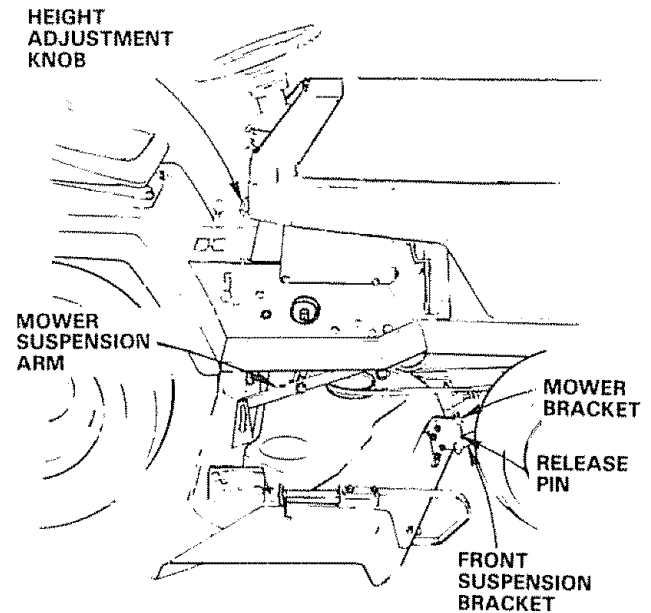

FIGURE 7
- Remove banding from suspension arms (Fig. 7) and gauge wheels. Set gauge wheels aside for later assembly.
- Slide front suspension brackets into mower brackets. Retain with release pins (Fig. 7).
- Turn height adjustment knob counterclockwise (↺) until it stops (Fig. 7).
- Turn height adjustment knob (Fig. 7) clockwise (↻) to remove slack from mower suspension.
- Pull mower drive belt over front mower suspension bracket (Fig. 7).